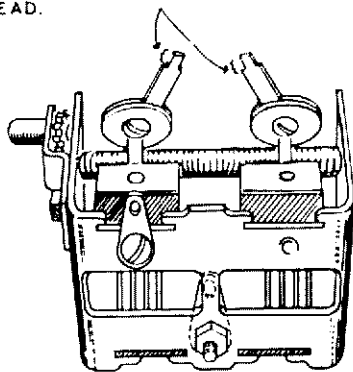

Figure 5
- () Observing Figures 5 and 6, loosen the nut holding the disc condenser on the stator lug nearest the slide switch so that the condenser is just loose enough to be rotated.
- () Bend pin 1 down against the condenser lead, being careful that the pin socket lug and lead from the disc condenser do not touch the metal part of the tube socket (NS).
- () In a like manner, prepare the tube socket pin and the other disc condenser to meet pin 2 of socket H (NS). Now check once again to see that adequate clearance has been allowed between these connections and the metal part of the tube socket. Line up the hole in the tube socket pin with the hole in the flat disc condenser lead.